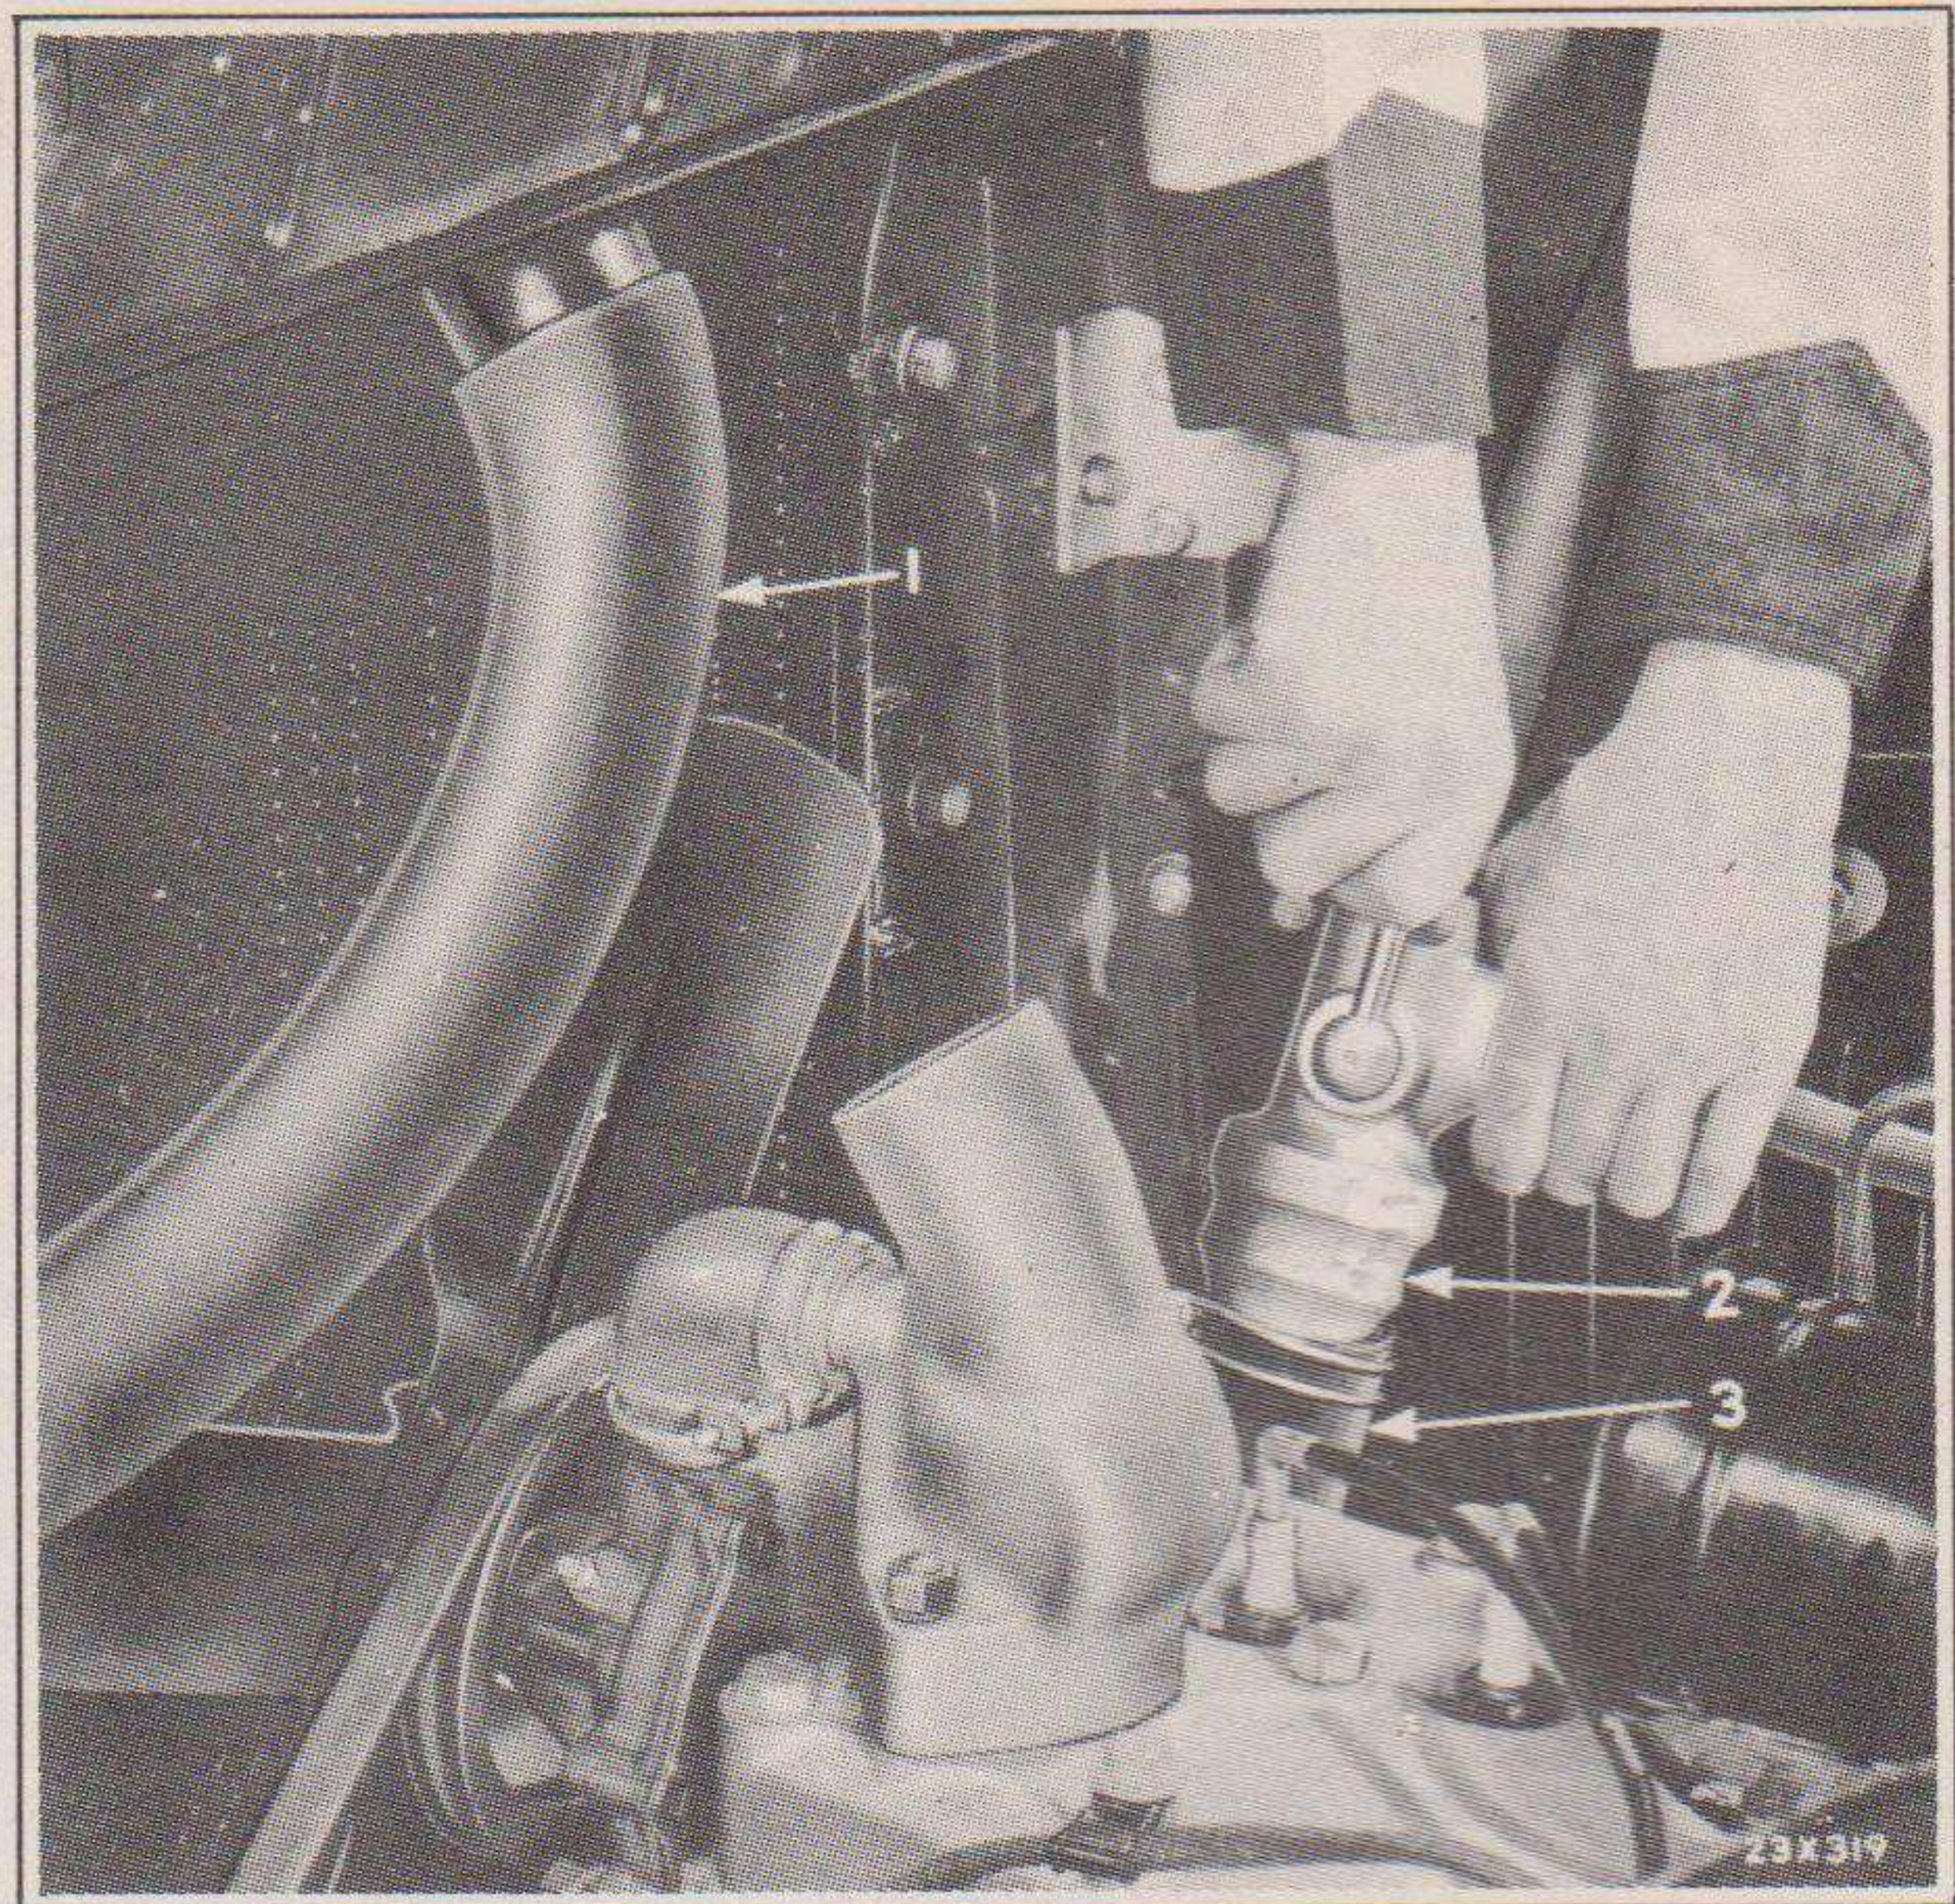

Fig. 98—Flushing Radiator with Flushing Gun
- (g) Attach the flushing gun to radiator outlet elbow (bottom of radiator) and force the water upward through the radiator until cleaned. See Fig. 98.